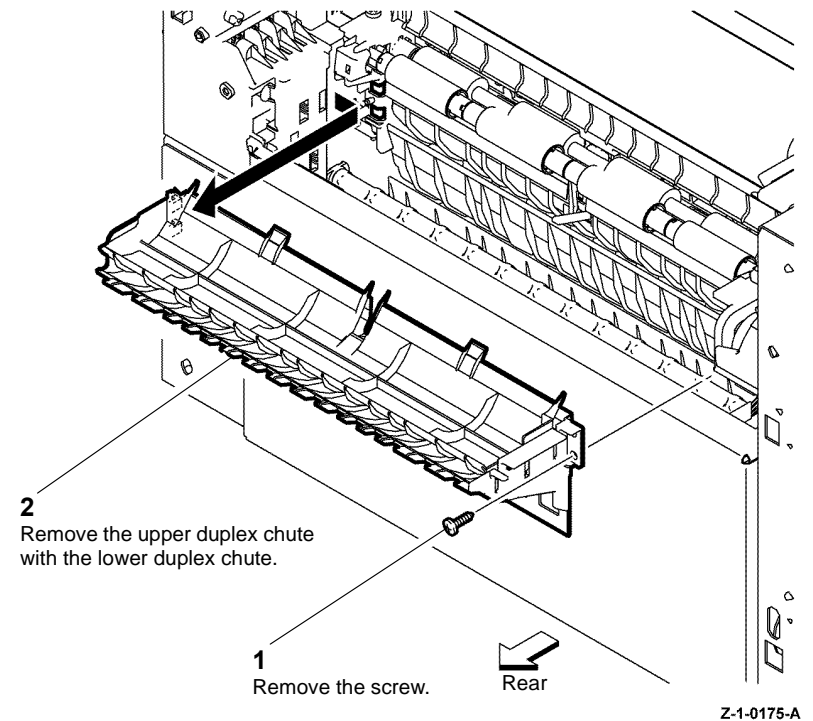

Figure 1 Duplex chute assembly
2. Remove the duplex chute assembly, Figure 1.